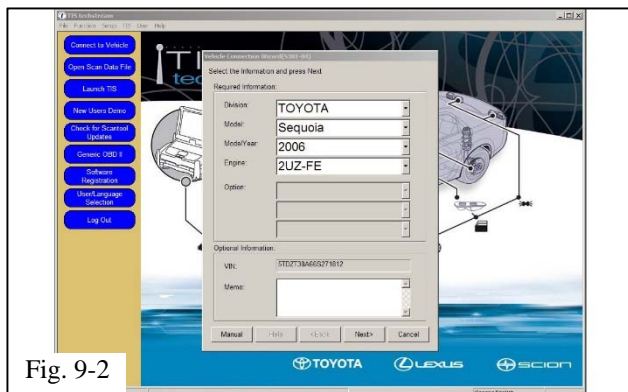

Fig. 9-2
- (e) Confirm that the information displayed on the Vehicle Connection Wizard is correct. If not, make the appropriate selections from the drop down menus, then click “Next” (Fig. 9-2).